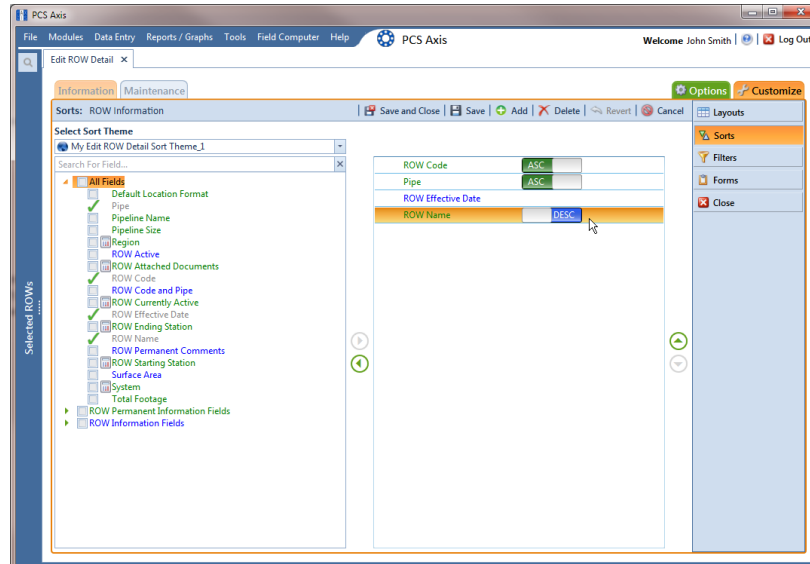

Figure 7-112. Sorts Theme: All Fields
- a Click the toggle arrow  for a field category in the left pane of the window to view a list of fields available for selection. For example, click  **All Fields** (Figure 7-112).